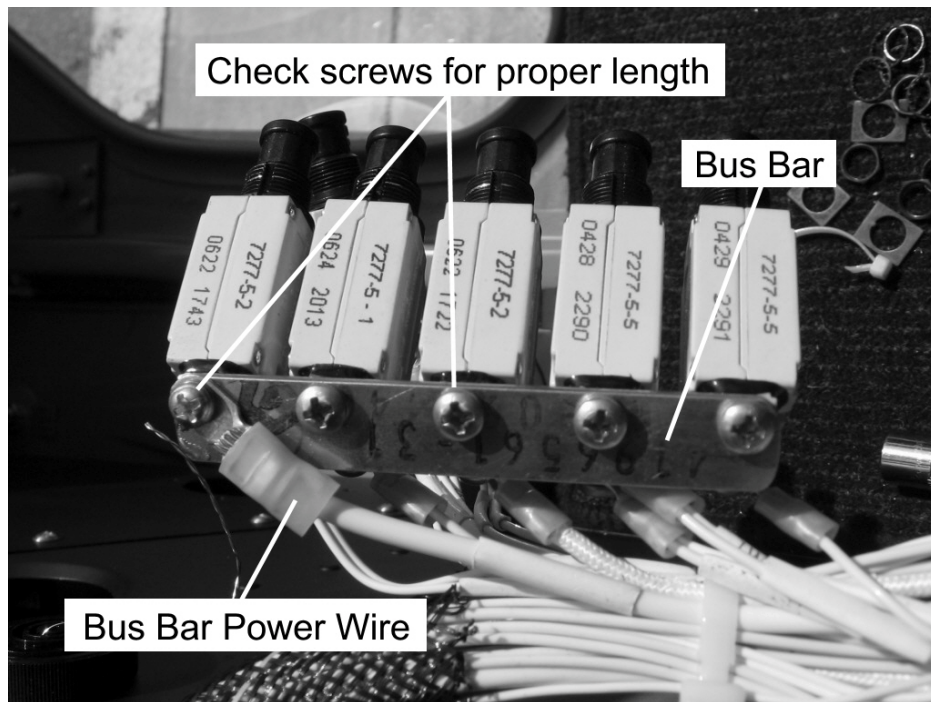

Figure 2. Circuit Breaker Bus Bar Installation
- 1. Remove the control knobs from the three (3) instrument/panel dimmer controls.
- 2. Loosen the seven (7) illuminated panel mounting screws.
- E. Remove the four (4) mounting screws from the switch panel assembly and remove the switch panel from the pedestal.
- F. Inspect the circuit breaker bus bar and bus bar power wire installations for proper length screws (See Figure 2). They should have a minimum of 1½ to 2 threads protruding from the breaker mounting tab. If the screws are too short, remove the screws and replace with the proper length screws IAW paragraph 5.2.